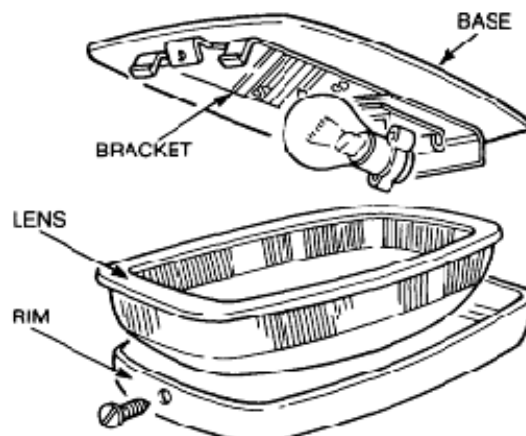

Figure 159 Cab Dome Light Exploded View
- a. Remove the screw retaining the lens and rim to the light unit (Figure 159).